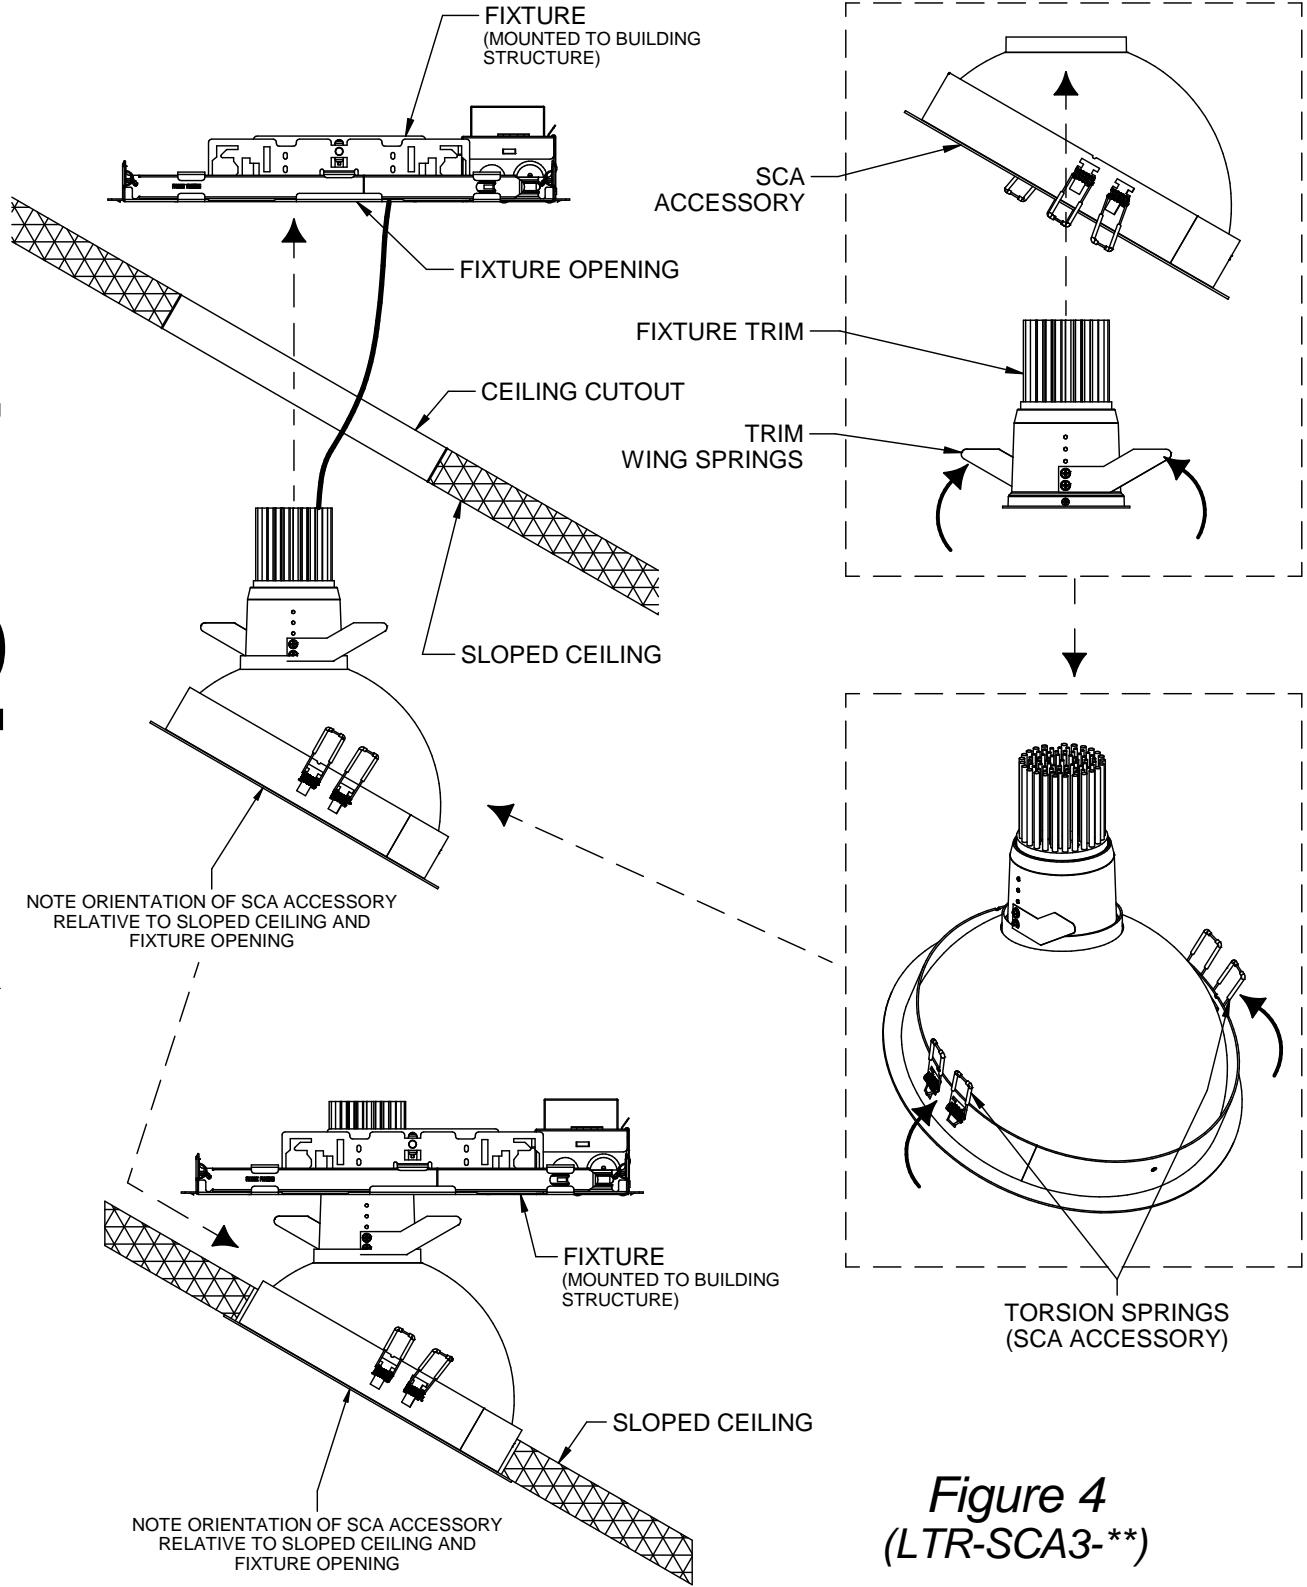

Figure 4
- a. For LTR-3RD fixtures, squeeze wing springs on trim and insert inside SCA accessory as shown in “Figure 4”. **Note:** *Be careful not to let springs snap against inner SCA reflector surface as this could damage SCA accessory finish.*
- c. Rotate 4 torsion springs upward along the sides of the trim and insert through ceiling opening in orientation shown in “Figure 4” until springs draw SCA trim firmly against the ceiling.
IMPORTANT: LITEISTRY™ SCA accessory must be installed in orientation as shown in “Figure 4” relative to sloped ceiling and fixture or it will not install properly.